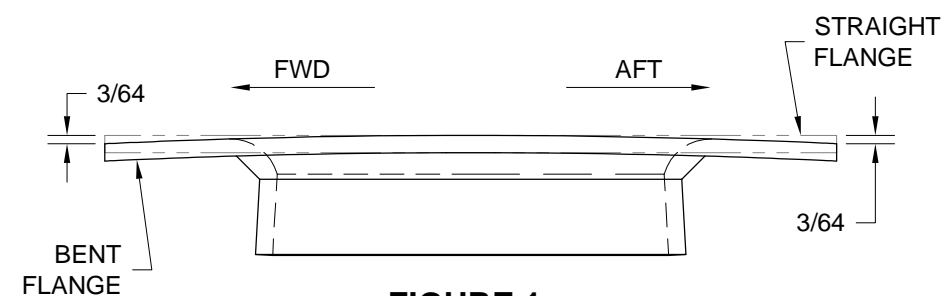

FIGURE 1:
Step 3: The T-406B Fuel Cap Flange is provided with a slight bend in the fwd/aft direction. In preparation for fitting the fuel cap flange to the tank skin, adjust the amount of bend in the flange so that it conforms to the curve of the tank skin. See Figure 1 for the approximate shape.